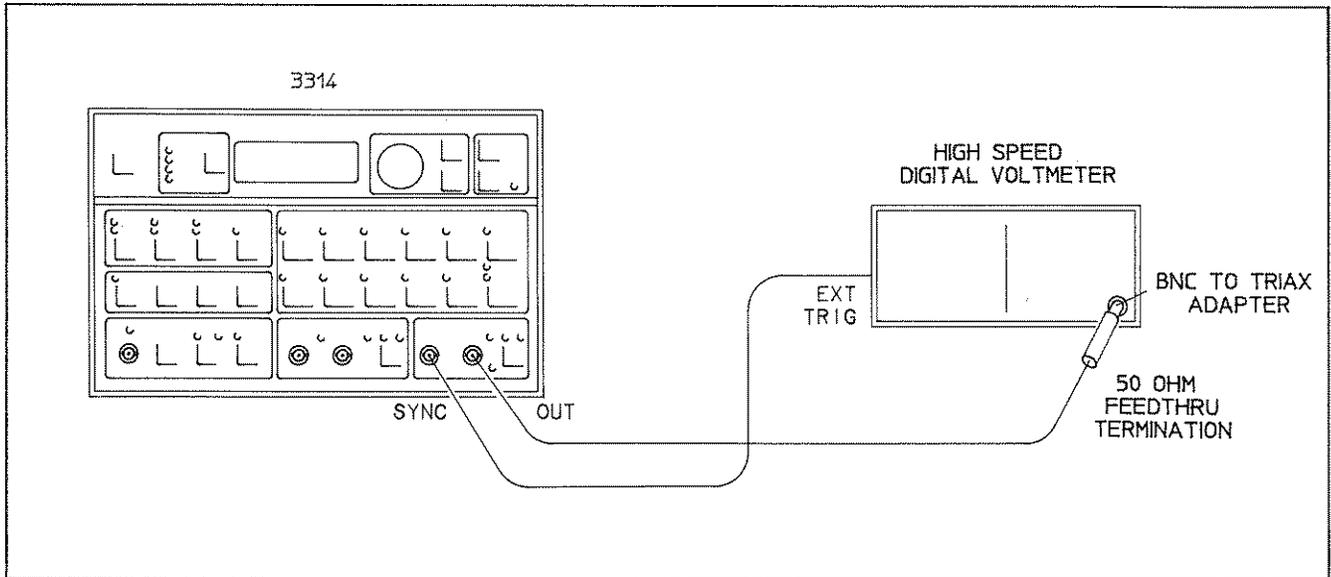

Figure 4-4. Triangle Linearity
D. Connect the 3314A to the Voltmeter as shown in Figure 4-4.